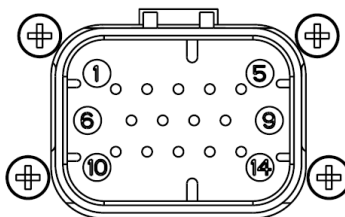

Figure 2: SMART-AG Connector
2. Establish a physical communication connection between the SMART-AG and the PC/laptop. Connect the *COM and Power* port on the back of the SMART-AG, see *Figure 2* below, to a DB-9 serial port on a PC, laptop or other data storage device.